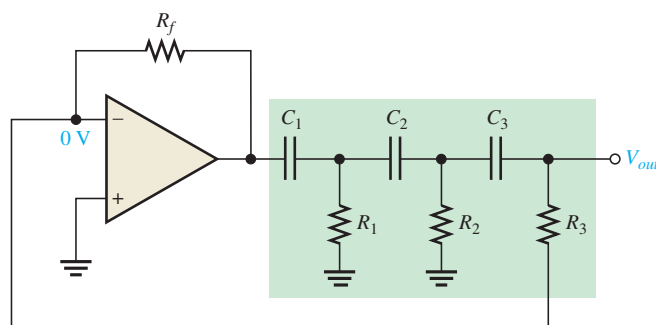

FIGURE 16–13
The circuit is redrawn in Figure 16–7(b) to show that the op-amp is connected across the bridge circuit. One leg of the bridge is the lead-lag circuit, and the other is the voltage divider.
Positive Feedback Conditions for Oscillation As you know, for the circuit to produce a sustained sinusoidal output (oscillate), the phase shift around the positive feedback loop must be 0° and the gain around the loop must equal unity (1). The 0° phase-shift condition is met when the frequency is f_r because the phase shift through the lead-lag circuit is 0° and there is no inversion from the noninverting (+) input of the op-amp to the output. This is shown in Figure 16–8(a).
► FIGURE 16–8
This offsets the $1/3$ attenuation of the lead-lag circuit, thus making the total gain around the positive feedback loop equal to 1, as depicted in Figure 16–8(b). To achieve a closed-loop gain of 3,
Start-Up Conditions Initially, the closed-loop gain of the amplifier itself must be more than 3 ($A_{cl} > 3$) until the output signal builds up to a desired level. Ideally, the gain of the amplifier must then decrease to 3 so that the total gain around the loop is 1 and the output signal stays at the desired level, thus sustaining oscillation. This is illustrated in Figure 16–9.
The circuit in Figure 16–10 illustrates a method for achieving sustained oscillations. Notice that the voltage-divider circuit has been modified to include an additional resistor R_3 in parallel with a back-to-back zener diode arrangement. When dc power is first applied,
A JFET stabilized Wien bridge is shown in Figure 16–11. The gain of the op-amp is controlled by the components shown in the green box, which include the JFET. The JFET's drain-source resistance depends on the gate voltage. With no output signal, the gate is at zero volts, causing the drain-source resistance to be at the minimum. With this condition, the loop gain is greater than 1. Oscillations begin and rapidly build to a large output signal. Negative excursions of the output signal forward-bias D_1 , causing capacitor C_3 to charge to a negative voltage. This voltage increases the drain-source resistance of the JFET and reduces the gain (and hence the output). This is classic negative feedback at work. With the proper selection of components, the gain can be stabilized at the required level. Example 16–1 illustrates a JFET stabilized Wien-bridge oscillator.
► **FIGURE 16–11**
Determine the resonant frequency for the Wien-bridge oscillator in Figure 16–12. Also, calculate the setting for R_f assuming the internal drain-source resistance, r'_{ds} , of the JFET is $500\ \Omega$ when oscillations are stable.
► **FIGURE 16–12**
Figure 16–13 shows a sinusoidal feedback oscillator called the **phase-shift oscillator**. Each of the three RC circuits in the feedback loop can provide a *maximum* phase shift approaching 90° . Oscillation occurs at the frequency where the total phase shift through the three RC circuits is 180° . The inversion of the op-amp itself provides the additional 180° to meet the requirement for oscillation of a 360° (or 0°) phase shift around the feedback loop.
- (a) Determine the value of R_f necessary for the circuit in Figure 16–14 to operate as an oscillator.
▲ **FIGURE 16–14**
Related Problem (a) If R_1 , R_2 , and R_3 in Figure 16–14 are changed to $8.2 \text{ k}\Omega$, what value must R_f be for oscillation?
Another type of RC feedback oscillator is called the *twin-T* because of the two T-type RC filters used in the feedback loop, as shown in Figure 16–15(a). One of the twin-T filters has a low-pass response, and the other has a high-pass response. The combined parallel filters produce a band-stop or notch response with a center frequency equal to the desired frequency of oscillation, f_r , as shown in Figure 16–15(b).